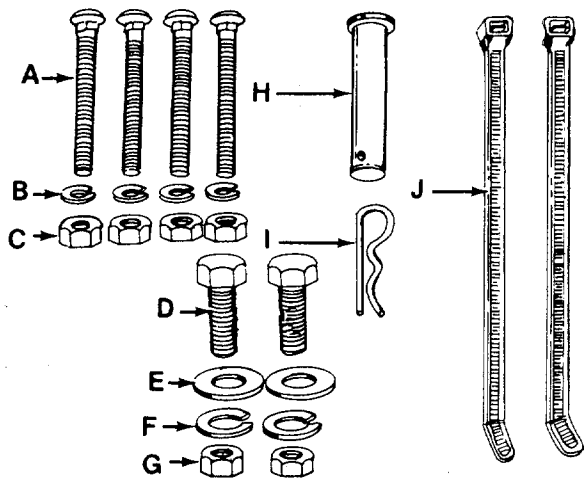

FIGURE 2.
- (2) 9/16" Socket, Open or Box Wrench
**Contents of Hardware Pack: (See Figure 2)**
- A (4) Carriage Bolts 5/16-18 x 1.75" Long\*
- B (4) Lock Washers 5/16" I.D.\*
- C (4) Hex Nuts 5/16-18 Thread\*
- D (2) Hex Bolts 3/8-16 x 1" Long
- E (2) Belleville Washers
- F (2) Lock Washers 3/8" I.D.
- ← G (2) Hex Nuts 3/8-16 Thread
- H (1) Clevis Pin
- I (1) Hairpin Clip
- J (2) Cable Ties